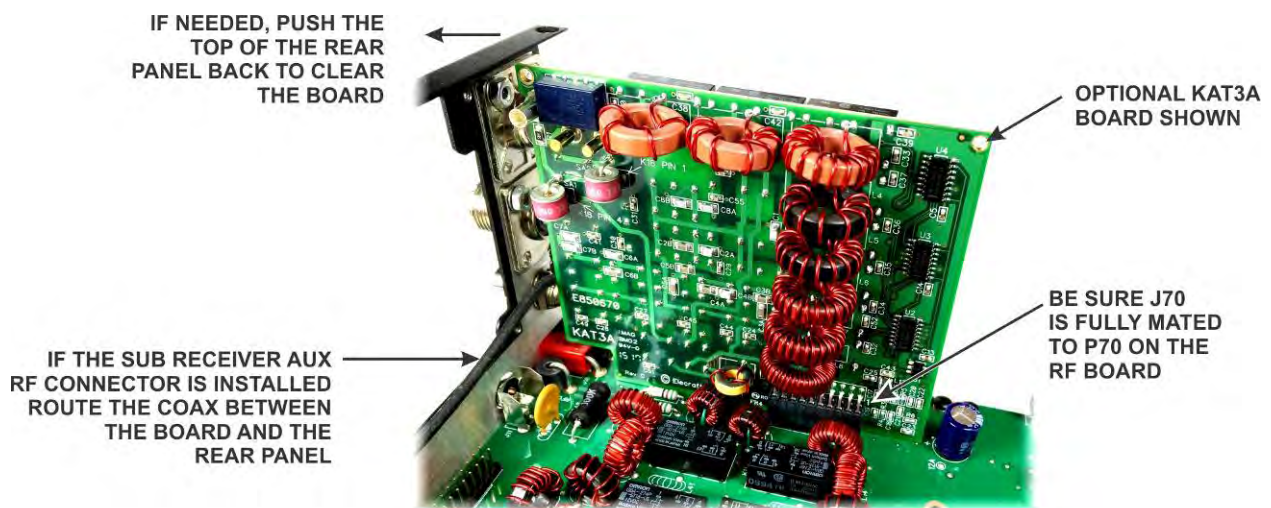
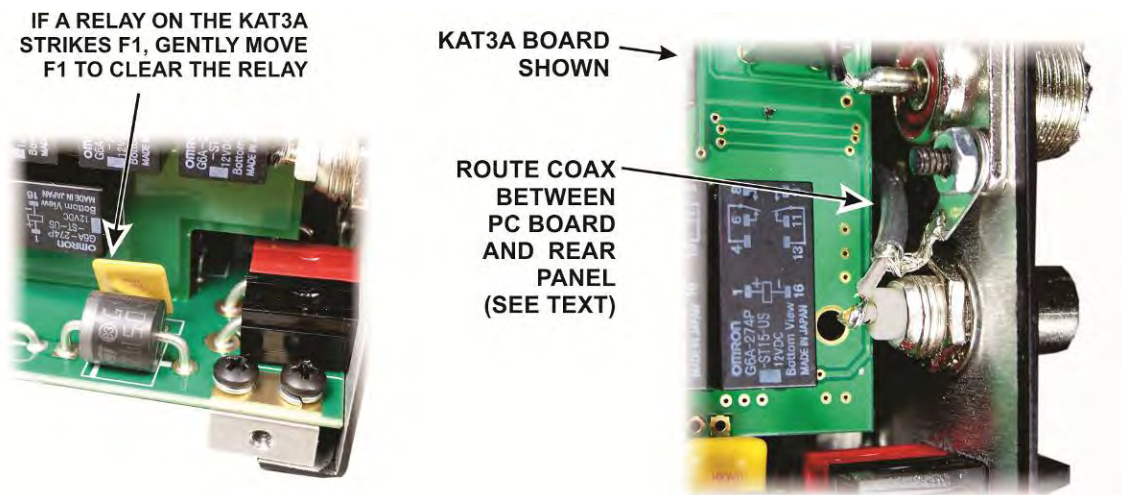

Figure 68. Installing the KANT3A or KAT3A Board.
Figure 69. Adjusting F1 and Routing AUX Coax.
□ Insert J70 on the KANT3A or the KAT3A board into P70 near the red and black APP power connectors at the right rear corner of the RF board. The KANT3A board is shown in Figure 68. The KANT3A board fits exactly the same way *with the toroidal inductors toward the center of the RF board*. When installing a KAT3A antenna tuner, a relay on the KAT3A may strike resettable fuse F1 on the RF board. If so, gently bend the fuse to clear as shown in Figure 69. If the sub receiver AUX antenna connector is installed, route the coax between the board and the rear panel as shown.
Locate voltage regulators U12 and U13. They are mounted on the RF board and have tabs screwed to the right side panel (see Figure 68 on page 50).